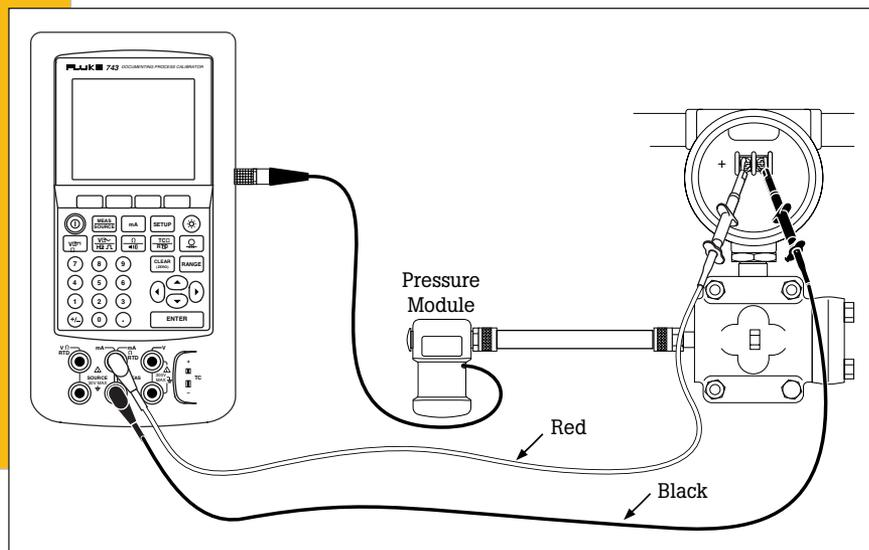

Figure 12
1. Connect the pressure module to the DPC. Connect the output of the I to P to the input of the pressure module. If you are using a differential pressure module, make sure (for this example) that it is a 15 PSI module and connect to the input labeled "H" (Figure 12).
2. Connect from the center two banana type connections of the DPC to the input of the I to P where control current is supplied (Figure 12).